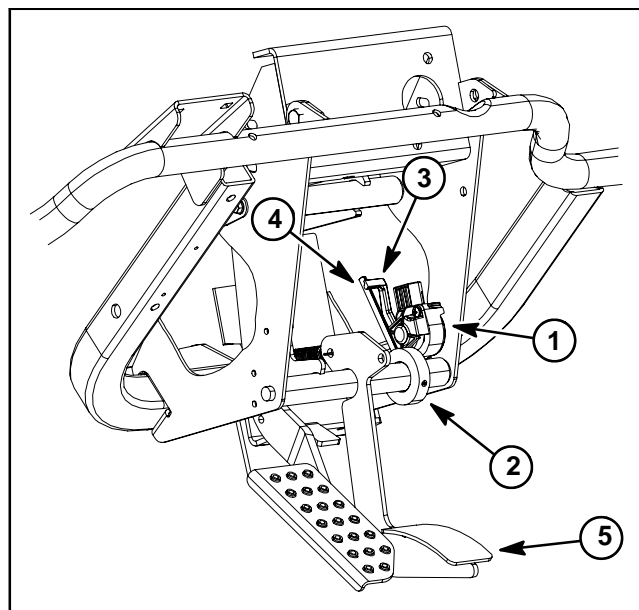

Figure 15.2
The accelerator potentiometer is used as one of the inputs for the vehicle controller and is attached to the pedal frame under the dash (Fig. 15.2). A collar with roll pin attached to the accelerator pedal shaft positions the accelerator potentiometer lever. Potentiometers with a long lever use a roll pin that extends approximately 3 inches (76 mm) out of the collar.
3. With the accelerator pedal released, inspect location of roll pin on throttle position collar and potentiometer lever. The roll pin should just contact the potentiometer lever without rotating the lever (Figure 15.2).
A. Loosen two (2) set screws that secure throttle position collar to throttle pedal shaft and reposition collar so that roll pin on the throttle position collar just contacts the potentiometer lever without rotating the lever. Make sure that there is clearance between roll pin and side of potentiometer lever to prevent binding.